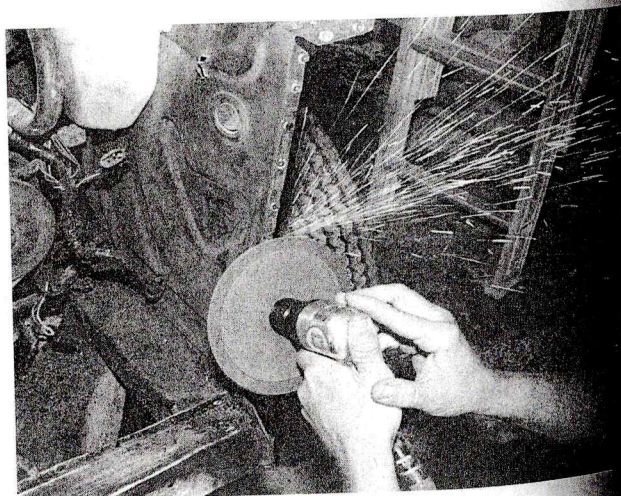

Figure 22-6 After removing the damaged panel, carefully grind and smooth any small beads left from spot welds. (Mustang Monthly Magazine)
1. Grind off the welding marks, Figure 22-6. Use a wire brush to remove dirt, corrosion, paint, seal-